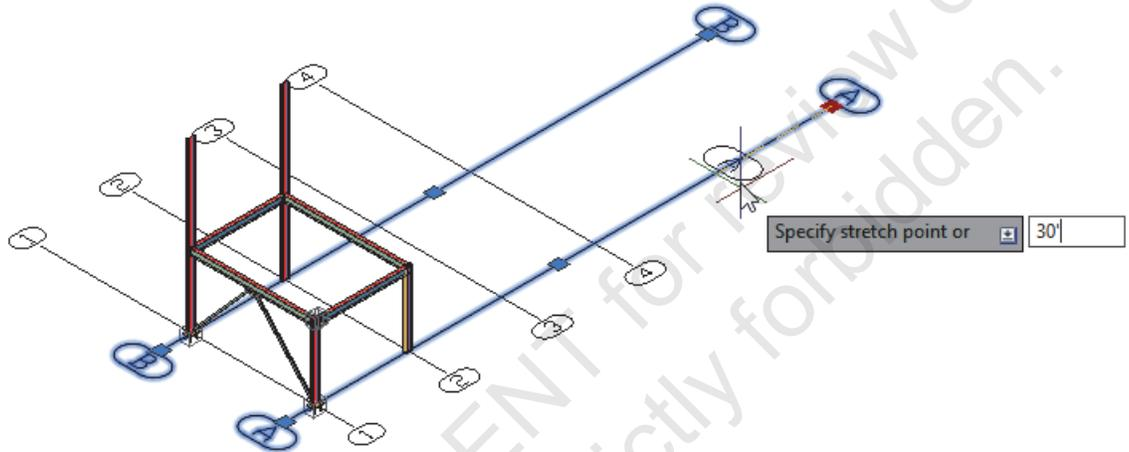

Figure 1-48
3. Select the AB Grid object. Click on the grip for Grid A and move it in **30'-0"**, as shown in Figure 1-48.